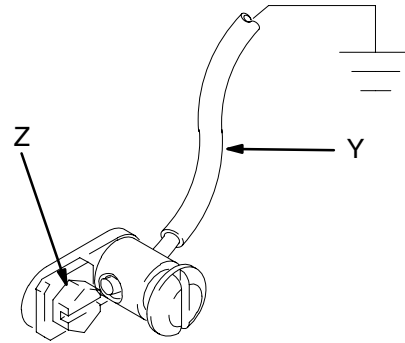

Fig. 1
- **Pump:** Use a ground wire and clamp as shown in Fig. 1.
**To ground the pump,** remove the ground screw (Z) and insert through the eye of the ring terminal at end of the ground wire (Y). Fasten the ground screw back onto the pump and tighten securely. Connect the other end of the ground wire to a true earth ground. See Fig. 1. *To order a ground wire and clamp, order Part No. 222011.*